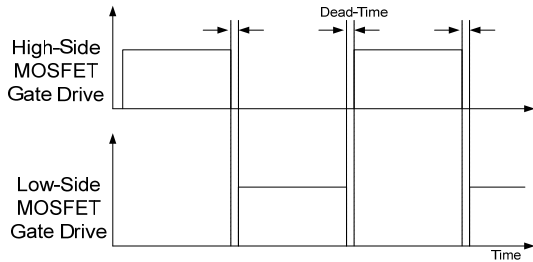

Figure 18. MOSFET Gate Drive Signals
**1. Basic Operation:** FSFR-HS series is designed to drive high-side and low-side MOSFETs complementarily with 50% duty cycle. A fixed dead time of 350 ns is introduced between consecutive transitions, as shown in Figure 18.